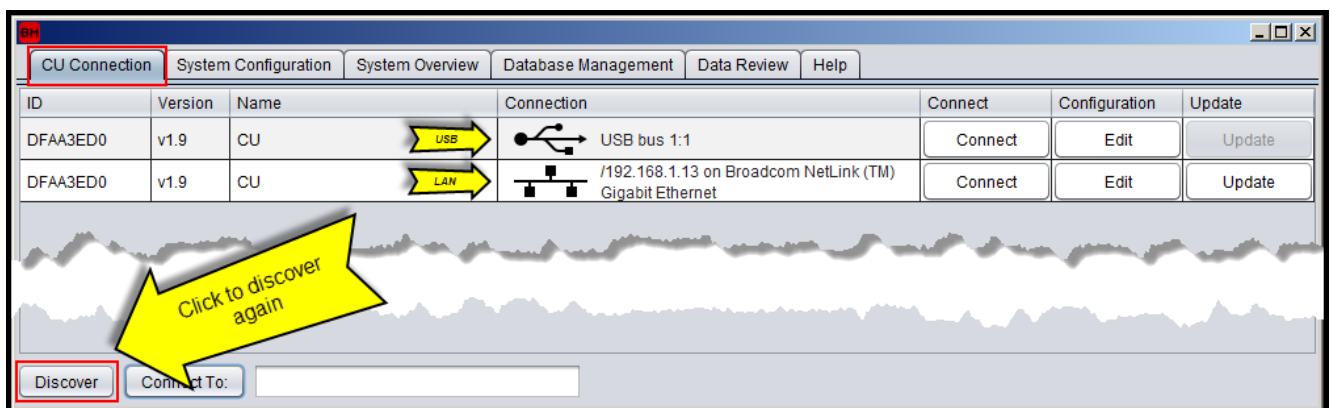

Figure 17: CU connection discovered devices
2. At start-up the CUs connected to the computer are discovered and shown in the “**CU connection**” tab as shown on Figure 17. Ethernet discovery uses broadcast packets and therefore only CUs present on the same network (LAN) are automatically discovered. If the CU is not discovered automatically user should check the USB and / or LAN connection and click on the “**Discover**” button on the bottom of the page. On Figure 17 the same CU is discovered twice because it is connected on same time with USB and LAN to the same PC.